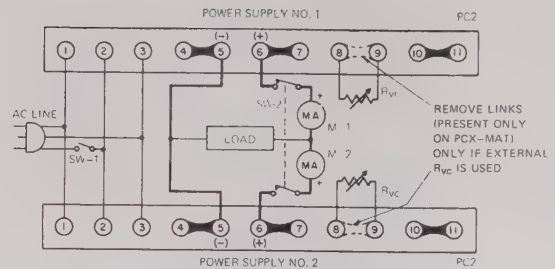

FIG. 3-13 PARALLEL CONNECTION OF PCX-MAT SUPPLIES
3-45 PROCEDURE (Refer to FIG. 3-13)
- Connect units as shown in FIG. 3-13. Oper SW-1 and SW-2 and connect to AC input source.